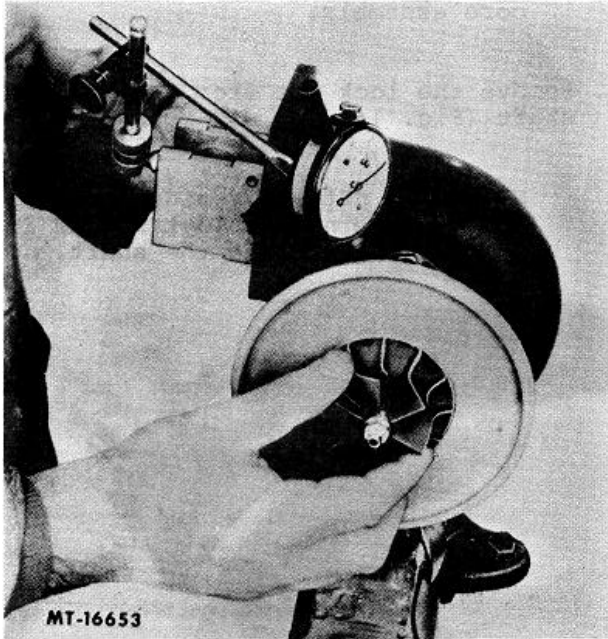

Fig. 10 Checking Radial Shaft Movement with Compressor Housing Removed
Step 2 and recheck the radial shaft movement as outlined in Step 3 (Fig. 10). If the readings exceed those obtained in Step 3, indications are that the compressor wheel is contacting the compressor housing and servicing is required.